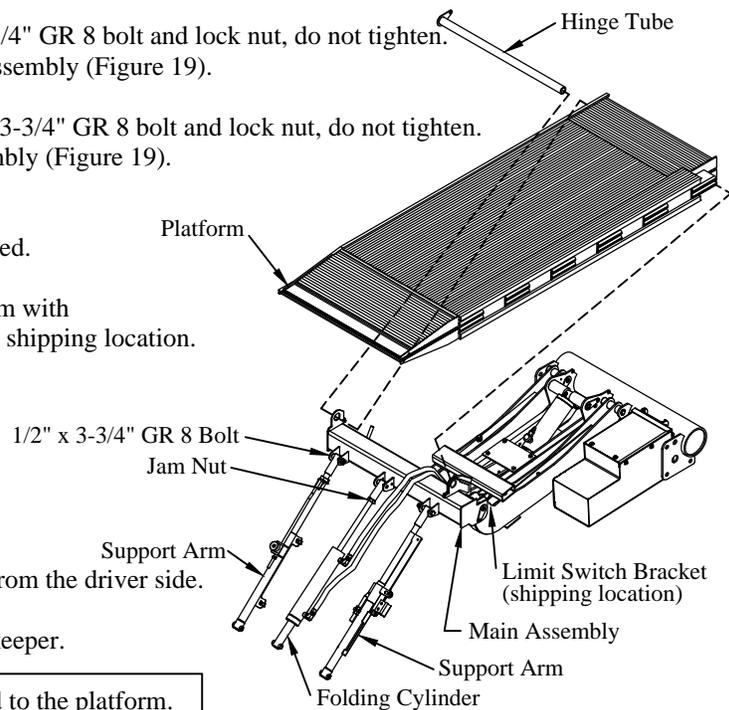

Figure 19: Platform parts location.
- 1. Install** the support arms on the main assembly, using a 1/2"x3-3/4" GR 8 bolt and lock nut, do not tighten. The threaded end of the support arm goes toward the main assembly (Figure 19).
- 2. Install** the folding cylinder on the main assembly, using a 1/2"x3-3/4" GR 8 bolt and lock nut, do not tighten. The threaded end of the cylinder goes toward the main assembly (Figure 19).